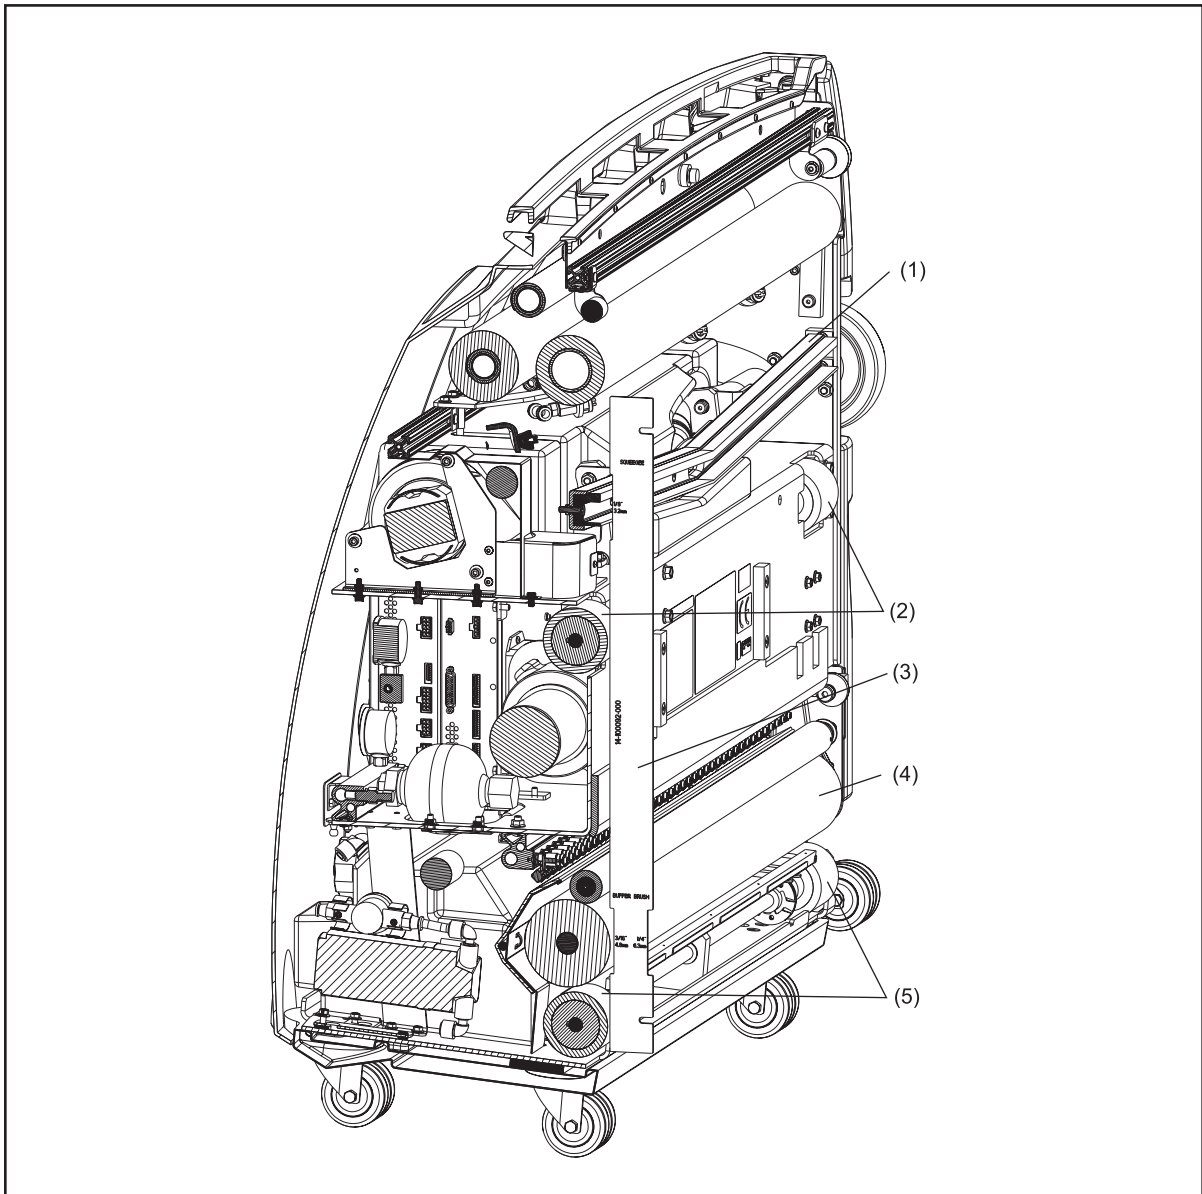

Figure 6-22. Adjustment Tool - Section View
(1) THREE MOUNTING BOLTS
5. Place adjustment tool (mounted inside the lane machine in front of the electronics enclosure) across the rear wheel and drive wheel on the 7-pin side of the machine. Refer to Figure 6-22.